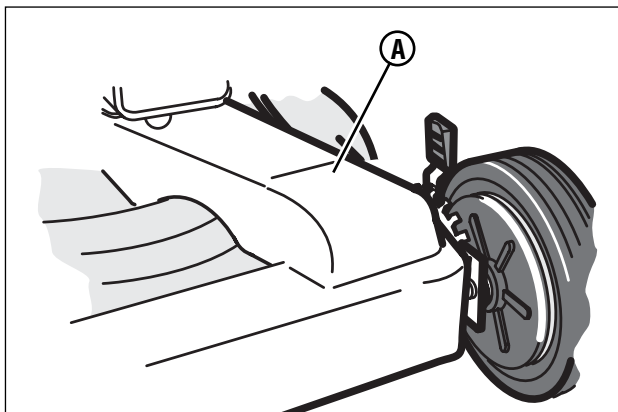

Figure 19: Removing the belt cover
1. Remove the screws that secure the belt cover (A, Figure 19). Remove the belt cover.